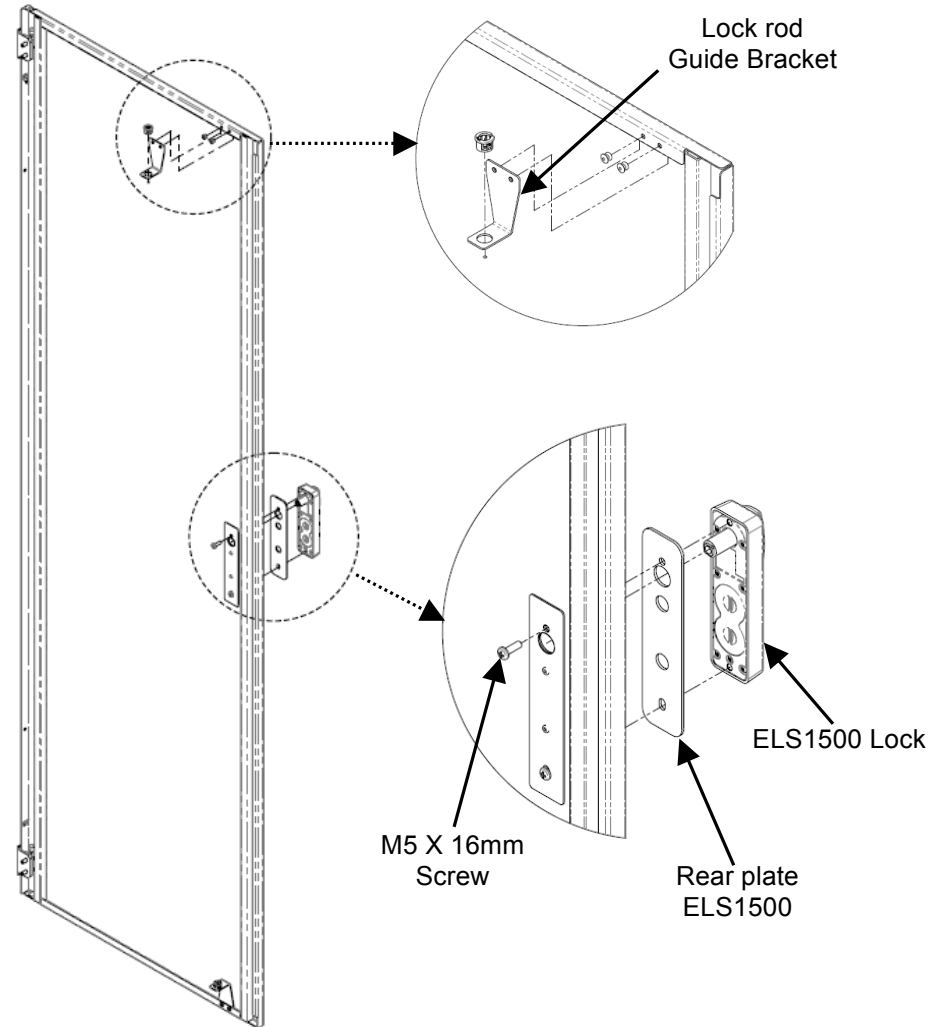

Fig. 6
2. Install lock rod guide brackets on top and bottom of rear door. Do not insert the lock rods yet (Fig. 6).
3. Position the ELS1500 lock with spindle orientation up and Front plate on the door over the latch cut-out and fasten with Rear plate using M5X16mm screws (Fig. 6).